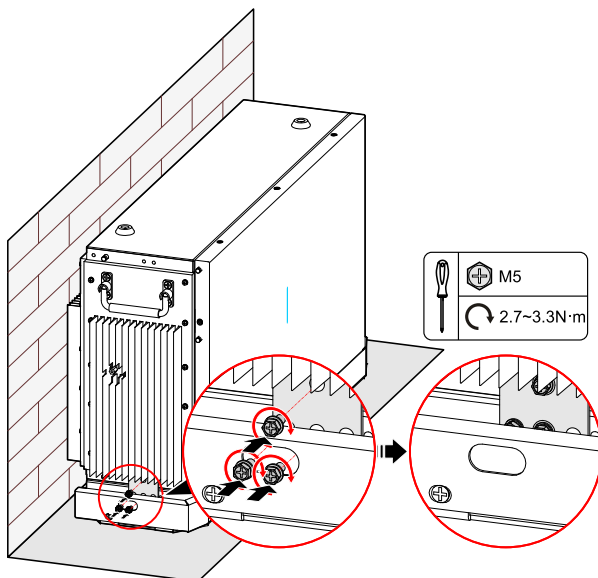

Figure3-23 Fix the bottom battery pack with base
1. Fix the bottom battery pack with base by wall bracket b, as shown in Figure3-23.